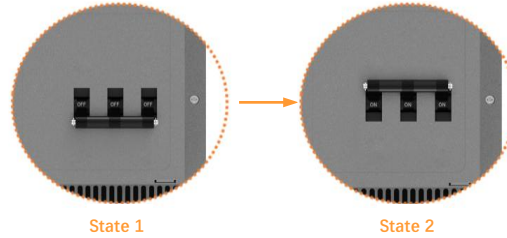

Figure 129 Control Module Power-On Diagram
Step 2: Switch the AC circuit breaker on the rear panel of the control module to the right to the ON position, see Figure 129 State 2.
Step 3: Switch the rear panel AC circuit breaker down to the OFF position, see Figure 129 State 1 indicates the product shutdown is complete.